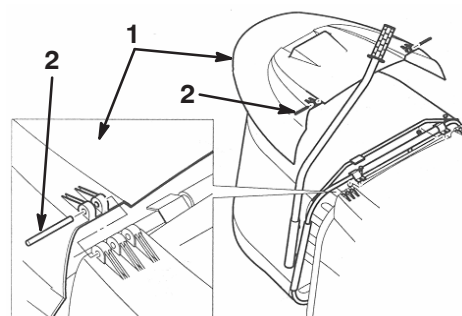

Figure 9
5. Attach the grass collector cover to the tractor with 2 pins (Fig. 9).